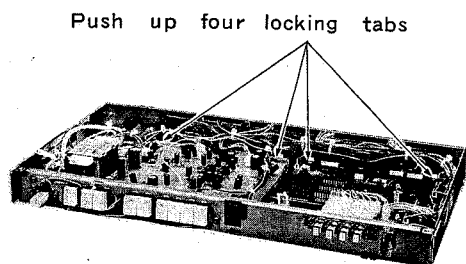

Fig. 2-3
- Push up four locking tabs to remove the Interface Board and the Microprocessor Board. And remove them by pulling them upward. (Fig. 2-3, 2-4)